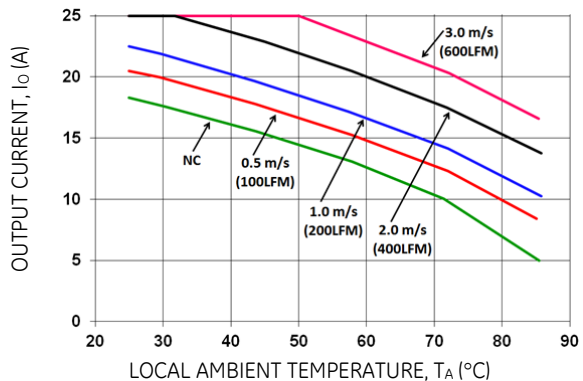

Figure 20. Output Current Derating for the Open Frame EBVW025A0B in the Transverse Orientation; Airflow Direction from Vin(-) to Vin(+); V_{in} = 48V.
Increased airflow over the module enhances the heat transfer via convection. The thermal derating of figures 20 through 22 show the maximum output current that can be delivered by each module in the indicated orientation without exceeding the maximum TH_x temperature versus local ambient temperature (T_A) for air flows of, Natural Convection, 1 m/s (200 ft./min), 2 m/s (400 ft./min).
The use of Figures 20 is shown in the following example:
Determine required airflow (V) (Use Figure 20):